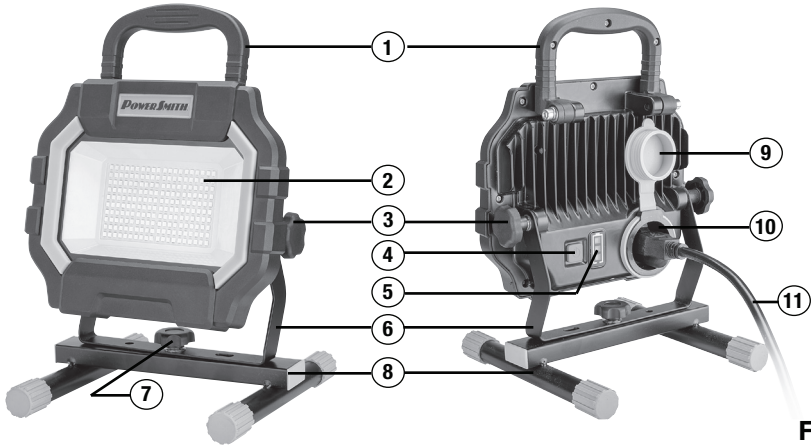

FIG 1
**REFER TO FIG 1**
1. Place the H-stand (8) on a flat surface.
2. Position the U-Shaped bracket (6) of the work light head against the stand (8) as shown in FIG 1.
3. Use the locking knob (7), flat washer and spring washer to secure the work light head on the H-stand.